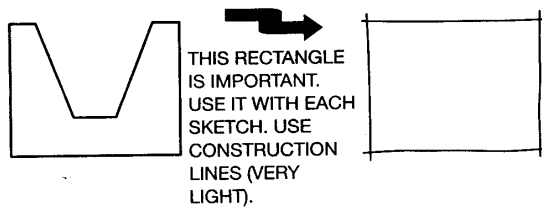

FIGURE 2.34 ■ Step 1, outline the drawing area with a block.
- Step 1. When starting to sketch an object, visualize the object surrounded with an overall rectangle. Sketch this rectangle first with very light lines. Sketch the proper proportion with the measurement-line technique, as shown in Figure 2.34.